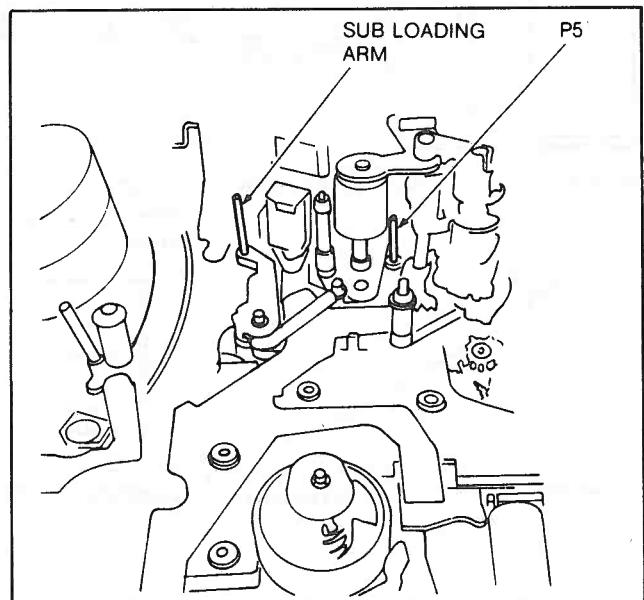

Figure M2
6. Repeat item 4 and 5 until mechanism come to SYOP(STOP1) position as shown in Figure M2.